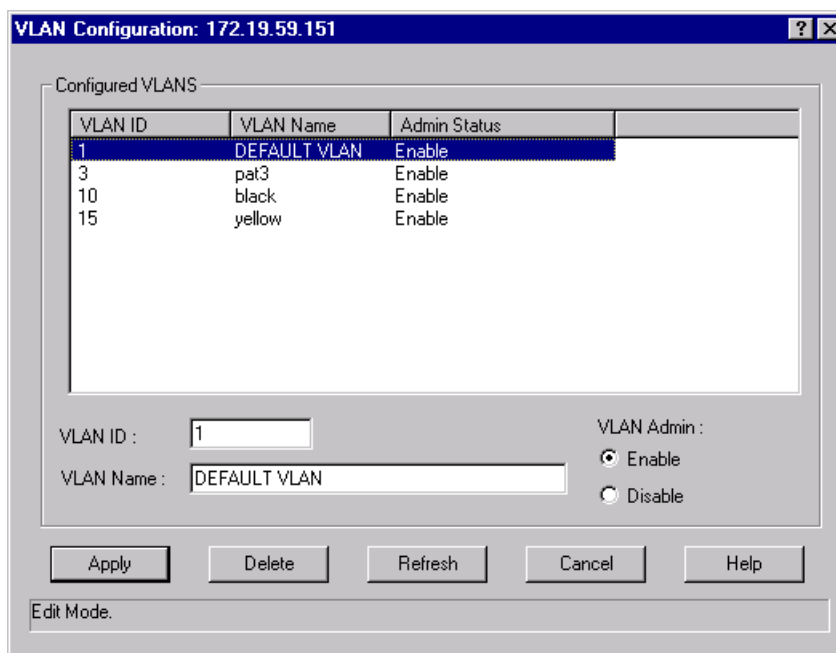

Figure 2-25. The VLAN Config Window
To set up your 802.1Q port-based VLANs using NetSight Element Manager, you must first define the desired VLANs using the VLAN Config window (Figure 2-25), which allows you to assign VLAN IDs and optional VLAN names, and enable or disable VLANs.
2. Drag down to **802.1Q VLAN**, then right to select **802.1Q VLAN Config**. The VLAN Config window, Figure 2-25, will appear.